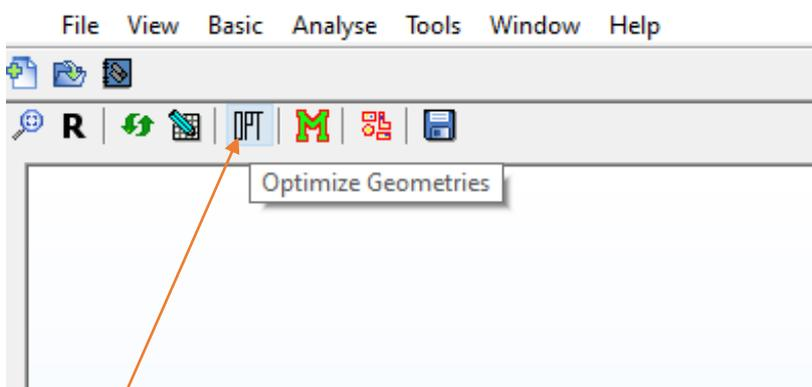

Figure 23
3. Click on  **Optimize Geometries** in the *Main Toolbar* (Figure 23) to start the optimization process.